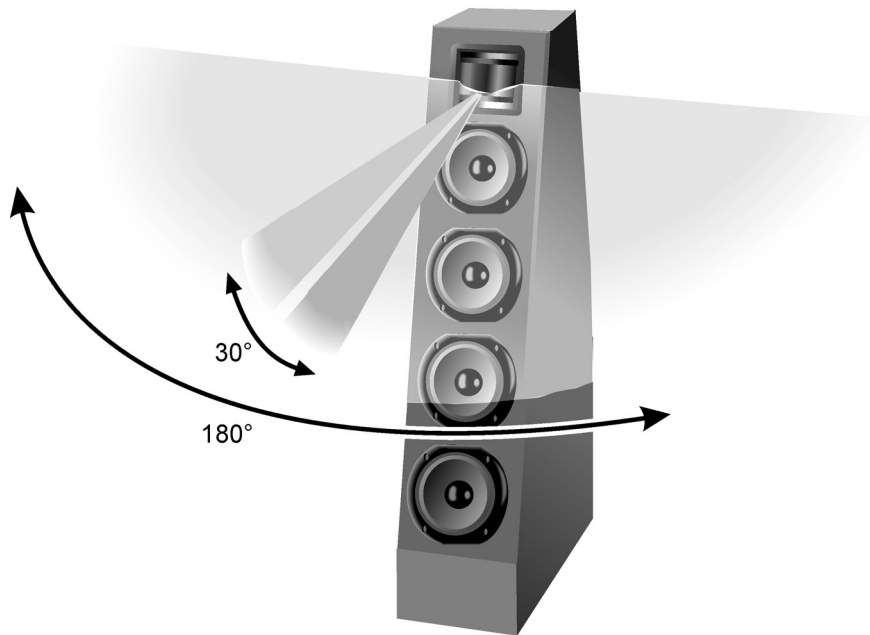

Figure 1. Dispersion Pattern of the CDT3 Tweeter
**CDT 3™ Tweeter:** The Classico CL-4 uses our patented CDT Cylindrical Diaphragm Transducer (CDT 3) for high-frequency reproduction. On its own, the CDT 3, with its cylindrically shaped high-frequency diaphragm, delivers smooth treble response across an amazing 300-degree range! Once it's built into the Classico models, it provides a full 180° high-frequency dispersion pattern (3 kHz - 21.5 kHz) (Figure 1). This allows substantial positioning flexibility, since consistent high-frequency response is delivered both on and off-axis. That means soundstaging and imaging are enhanced while there'll be more "good seats" in your listening room, so more people will hear all the sound, particularly important in a surround sound setup.